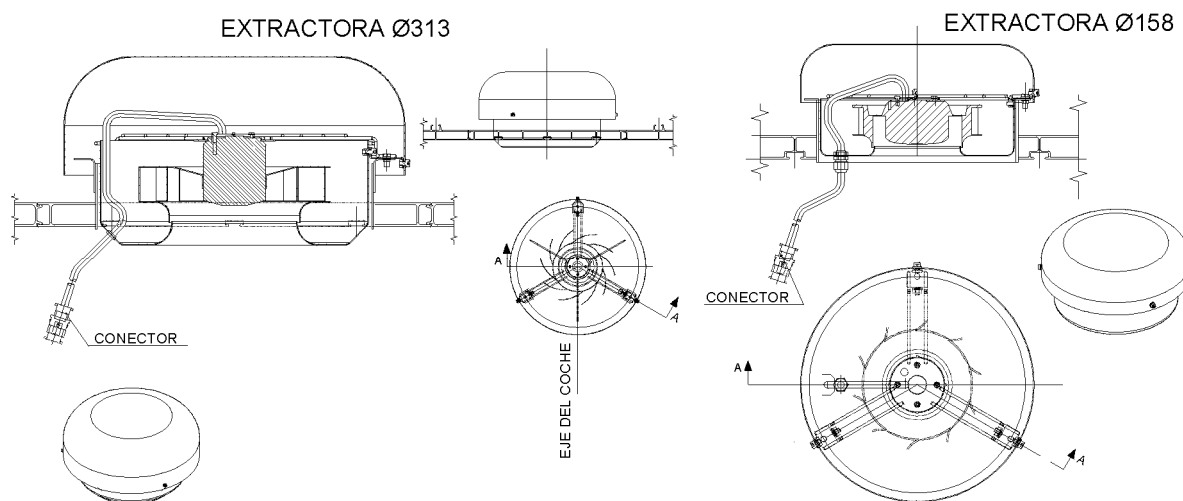

Figura A-23. Extractoras
A.3.5 Extractoras (Figura A-23)